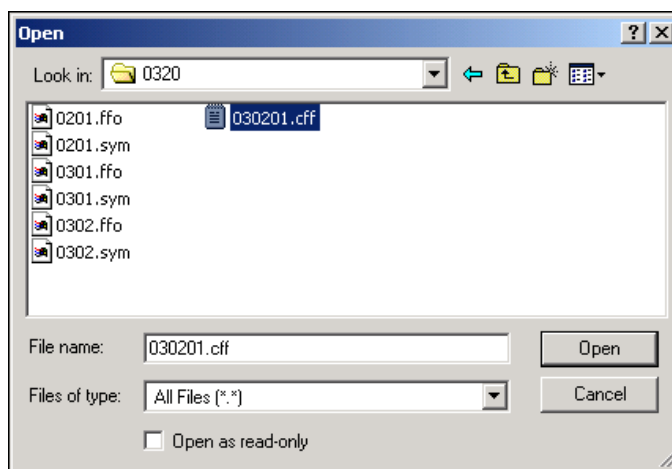

Figure 2-4. Selecting the Capability File
7. Click the **Browse** button in the Import DD/CFF dialog box and select **All Files (*.*)** in the **Files of type** pull-down menu. Browse to the `.cff` capability file as shown in Figure 2-4 and click **Open**.